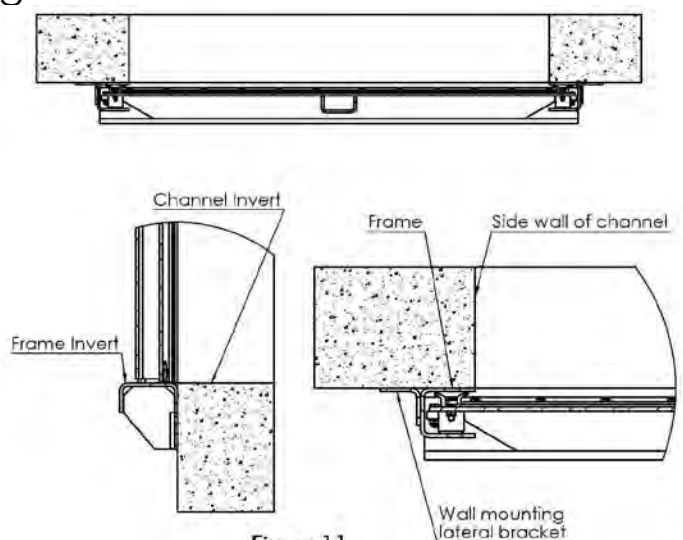

Figure 11
- Position the stop gate against the wall and line up with the opening (See Figure 11). The gate shall be in the closed position.